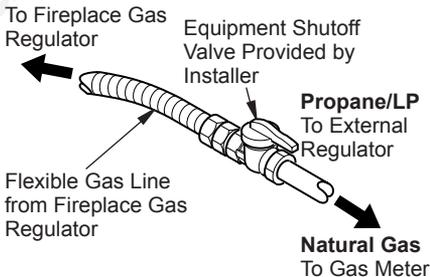

Figure 20 - Attaching Flexible Gas Lines Together
4. Attach the flexible gas line to gas supply (see Figure 20). Check tightness of flexible gas line attached to gas regulator of fireplace (see Figure 20).
**NOTICE:** Most building codes do not permit concealed gas connections. A flexible gas line is provided to allow accessibility from the fireplace (see Figure 20). The flexible gas supply line connection to the equipment shutoff valve should be accessible.